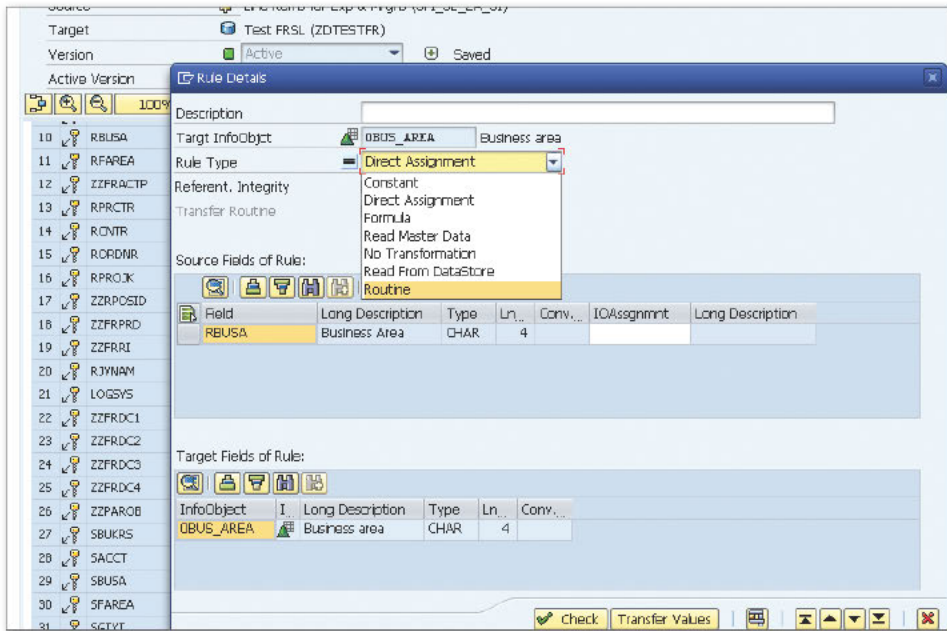

Figure 2 Transformation Rule
« Figure 2 Directory Options for Saving the CSV File into the Application Server
7. In the RULE DETAILS screen, select ROUTINE (see Figure 2).